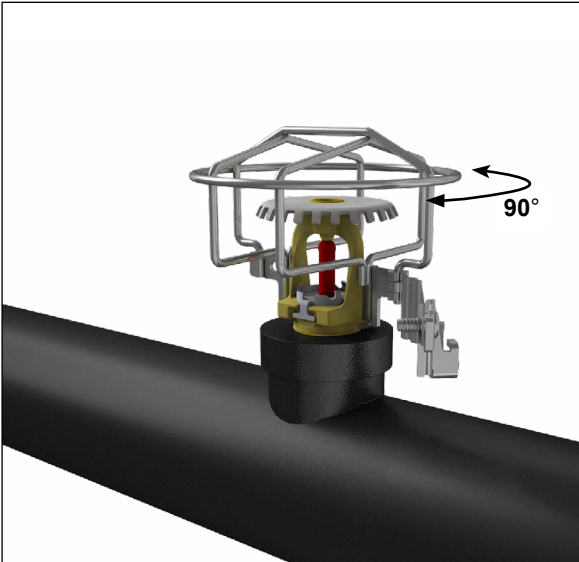

Figure 4: Rotating the Guard into Place
4. Once the sprinkler is inside the frame and the guard is properly oriented, rotate the guard 90 degrees in either direction so the activation element T-hinge is not blocked. See Figures 4 and 5.